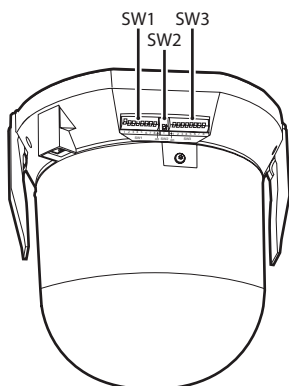
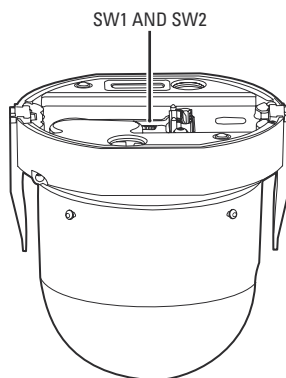

Figure 9. Spectra III Dome Drive DIP Switches
Figure 10. Spectra IV Dome Drive DIP Switches
7. Set the DIP switches on the Spectra III/Spectra IV system (refer to Figure 9 and Figure 10 for switch locations):